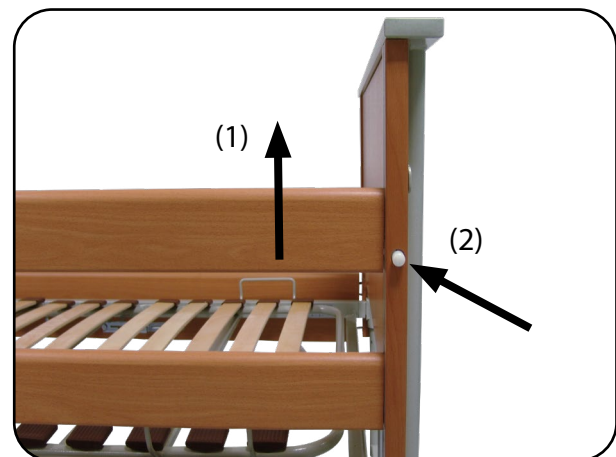

Fig. 8.2.01 – Lowering the side bars
1. To lower the side bars, first raise the top side bar slat (1) to unlock the release button.
2. Keep the release button (2) pressed while the top slat is still raised and, still keeping the button pressed, lower the side bar slat down past the locking mechanism. When doing so, always lower the side bars slowly and carefully (Fig. 8.2.01).